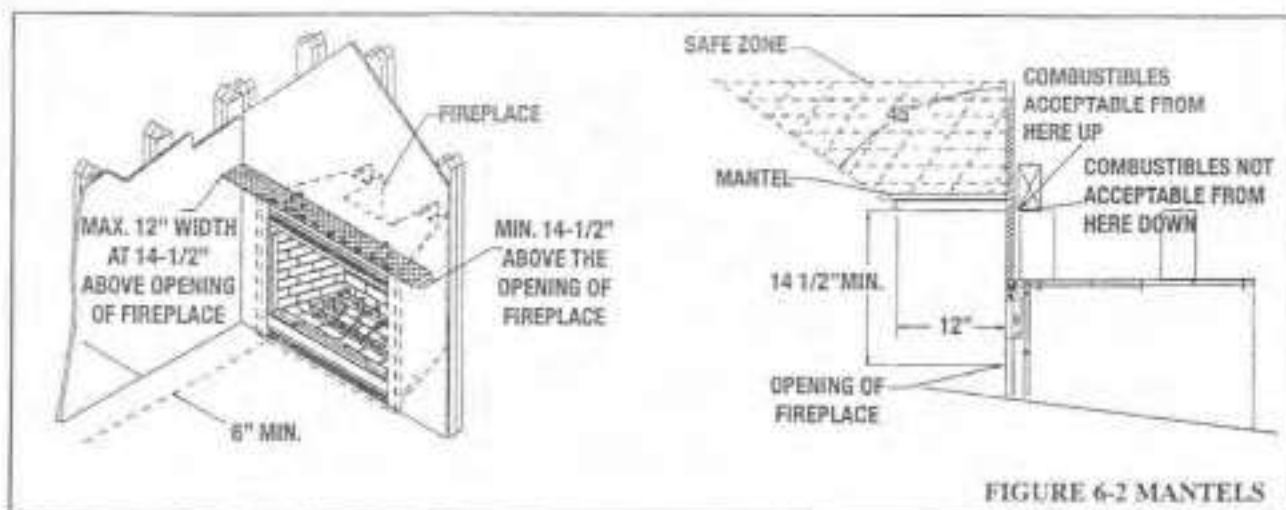

FIGURE 6-2 MANTELS
1. The mantels must be both at least 14 inches above the opening of the fireplace, and no more than 12 inches wide. Refer to Figure 6-2.
2. The opening of the fireplace must be at least 6 inches from a perpendicular wall. Refer to Figure 6-2.